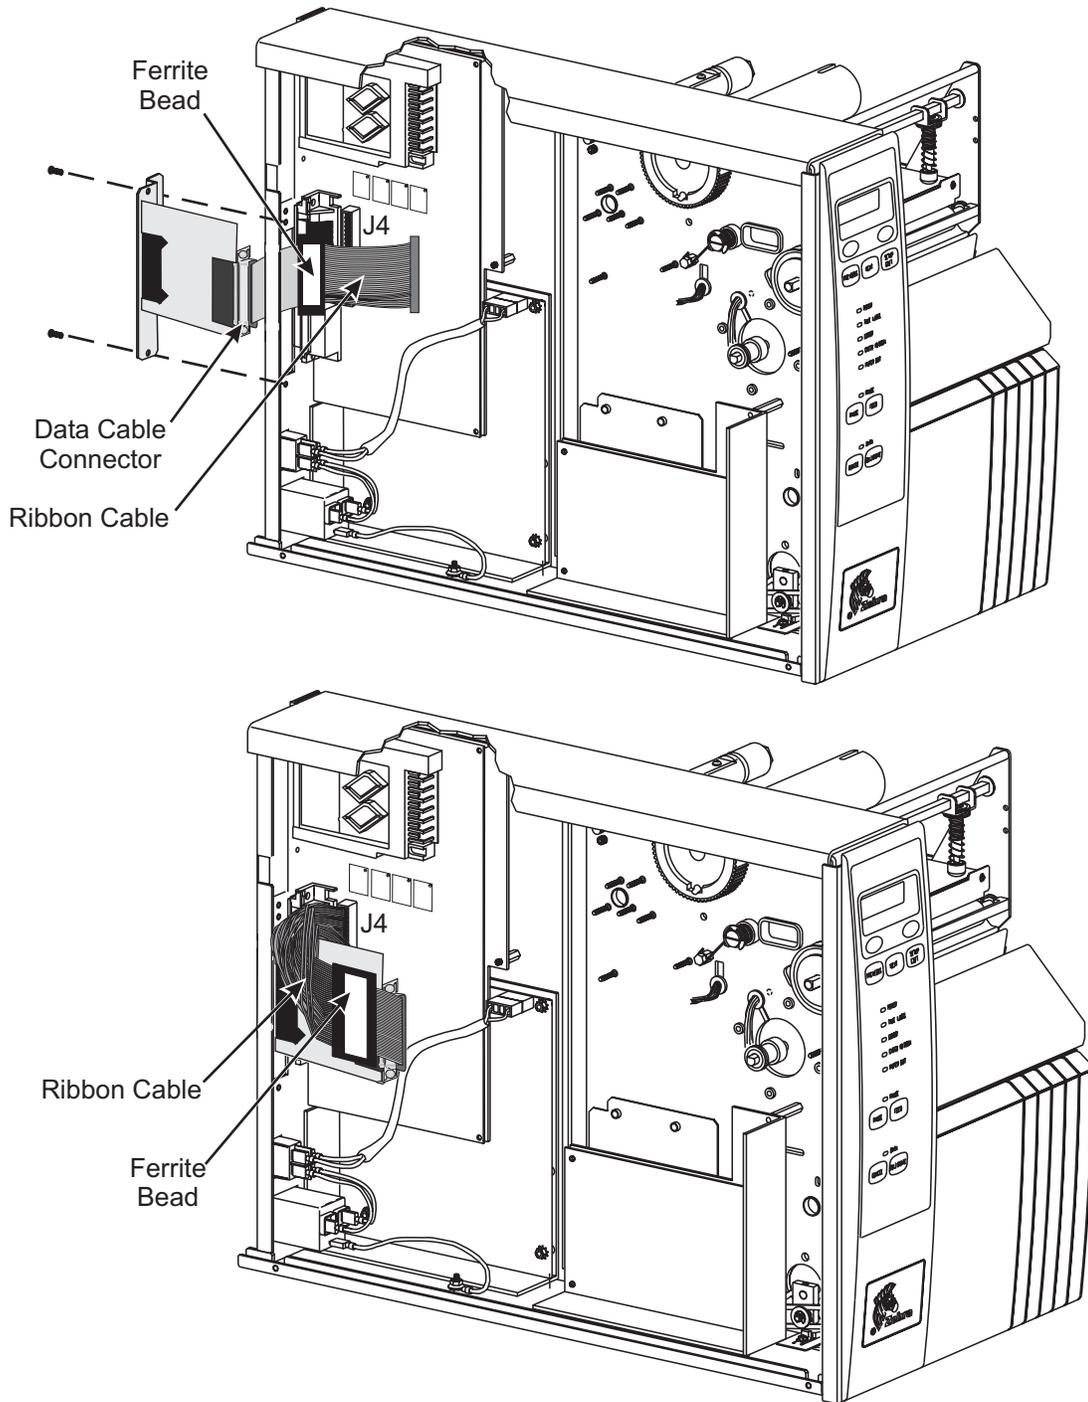

Figure 6-17. X1111 and R-140 Internal PrintServer II Board Installation
5. Refer to Figures 6-17 or 6-18. Fold the cable and the ferrite bead back over the mounting bracket, and connect the ribbon cable connector into the keyed interface data cable connector (J4–X1111 or P21–X1111Plus) on the main logic board. Ensure that the connector is properly seated and that pin 1 of the interface data cable connector is connected to pin 1 of J4 or P21.